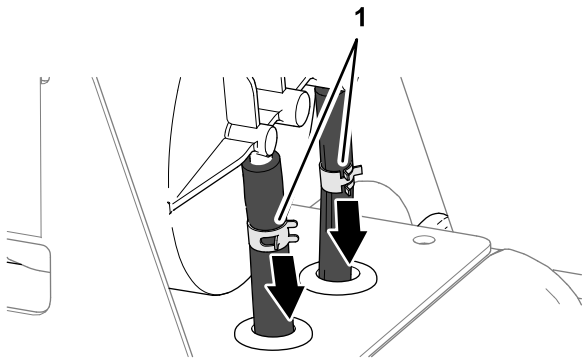

Figure 85
3. Loosen the 2 hose clamps that secure the hoses to the fittings of the carbon canister (Figure 85).